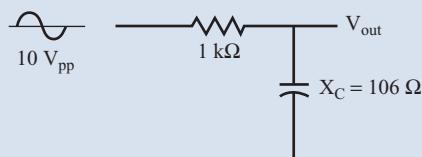

FIGURE 6.37
C. Figure 6.37 shows the portion of the circuit that an AC signal passes through.